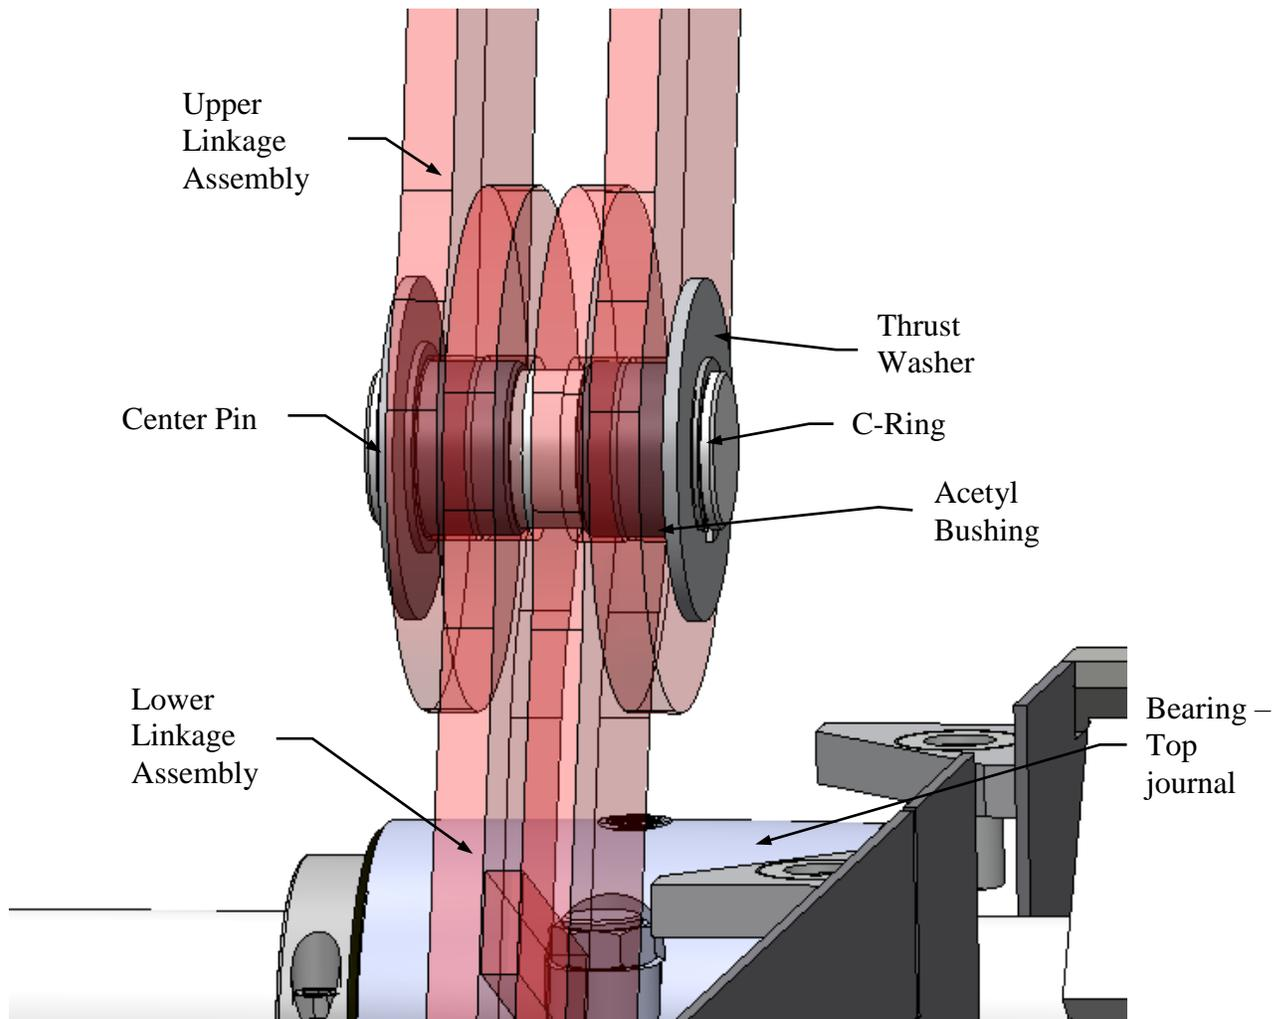

Figure 13 - Linkage Pin Assembly
- 4.5.7. Select a linkage without a MLB installed. Remove the middle pin from the linkage. Inspect the pin, bushings, thrust washers and linkage hole for wear or damage. If excessive wear or damage, replace. See **Figure 13 - Linkage Pin Assembly** for breakdown.